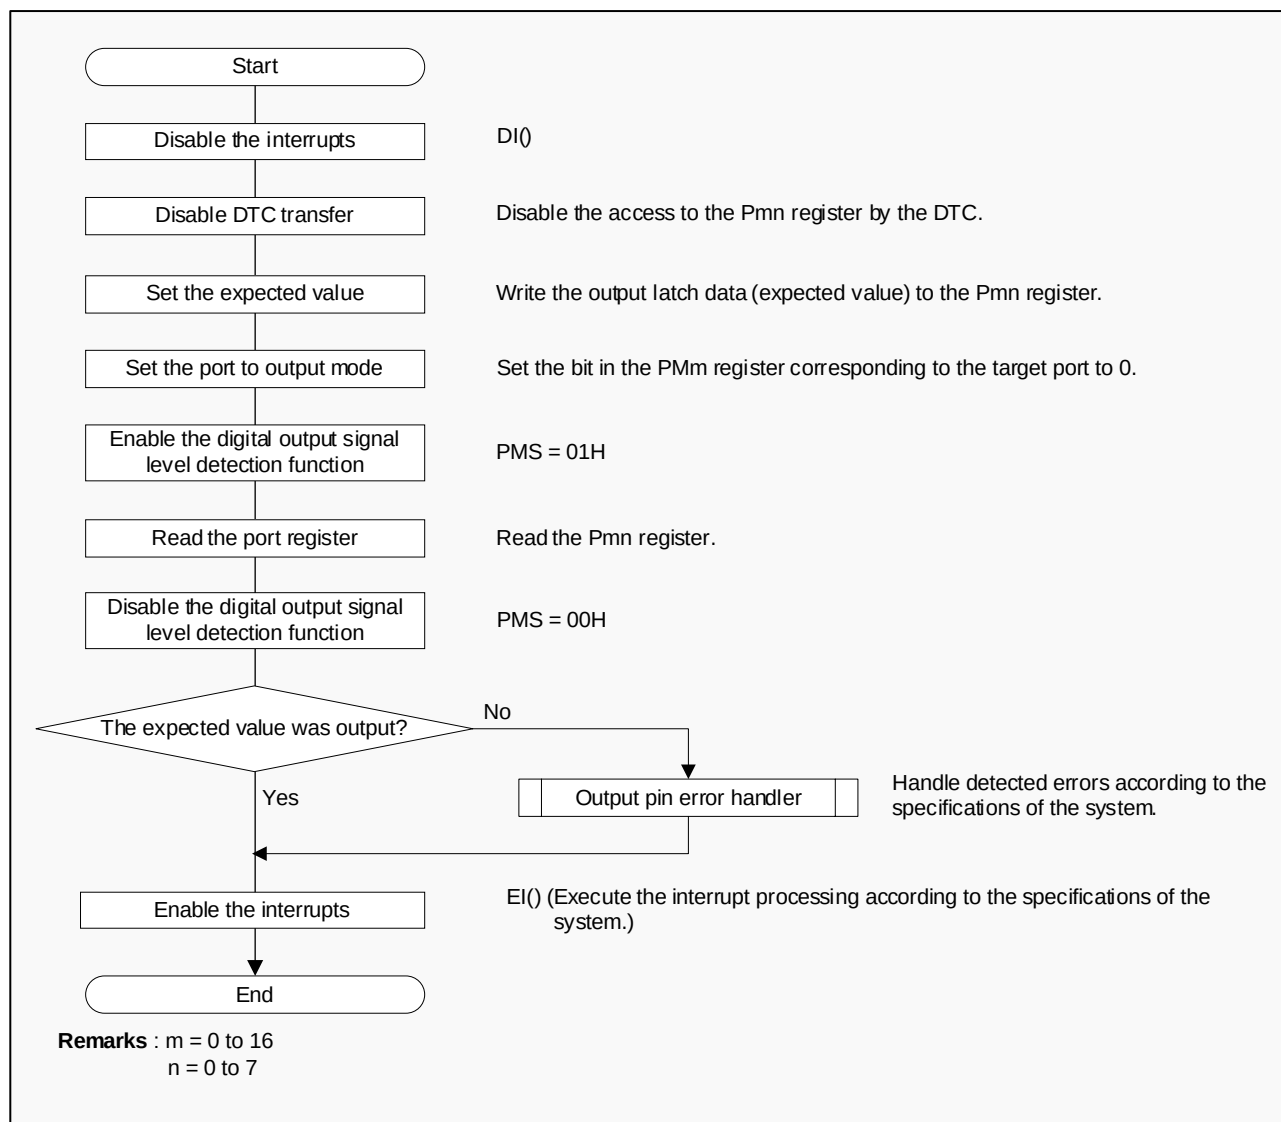

Figure 14-1 Flow Chart of Digital Output Signal Level Detection for I/O ports
Figure 14-1 is a flow chart of the digital output signal level detection for I/O ports.
P.58	Corrected “Figure 14-1 Flow Chart of Digital Output Signal Level Detection for I/O ports”.